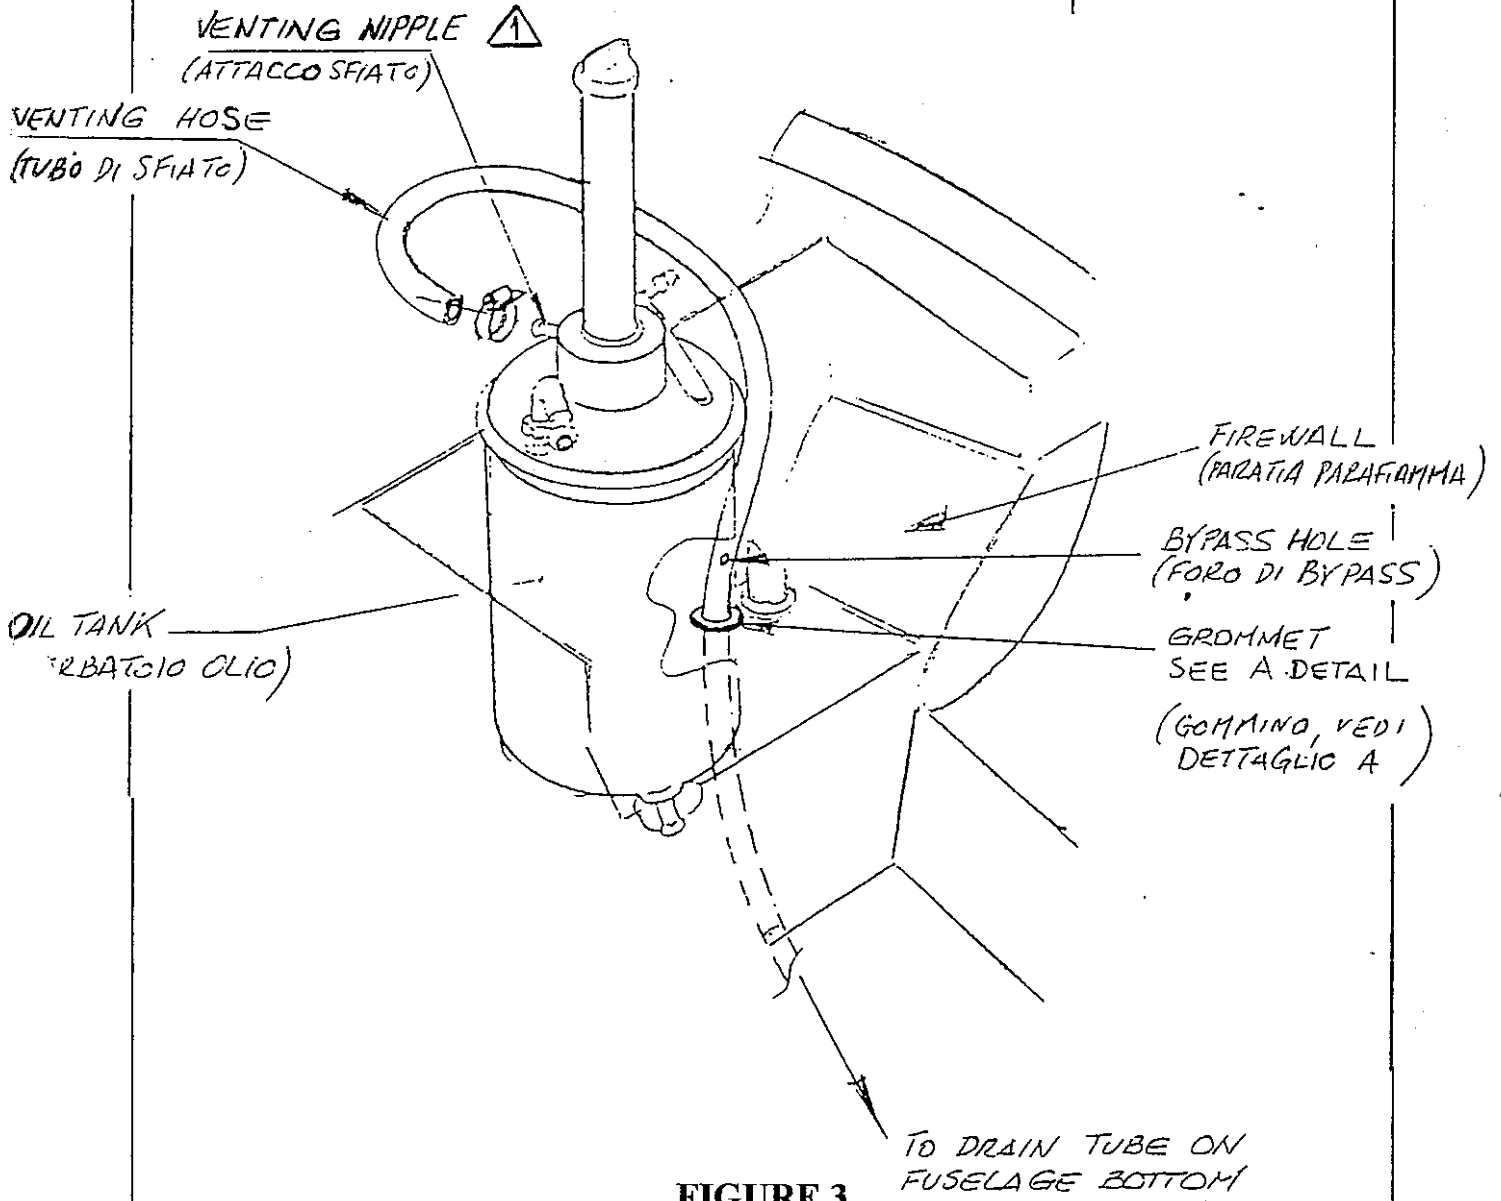

FIGURE 3
9. *Verify that, pulling the oil vent tube in the direction of fuselage interior, the bypass hole remains in the engine side at a distance of at least 30 mm from the firewall. See detail A of figure 3.*